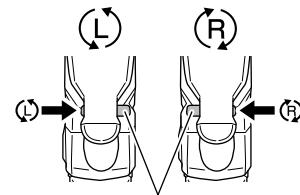

Fig. 15
6. Confirm the direction of bit rotation (**Fig. 15**)
The bit rotates clockwise (viewed from the rear side) by pushing the R-side of the push button. (**Fig. 15**)